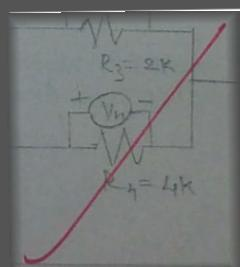

Figure 5.2
- Connect the circuit as shown in figure 5.2 with the lamp of tungsten filament (material with positive temperature coefficient) and switch on 1-Φ A.C. supply. Set 230 V with the help of autotransformer in voltmeter  $V_1$ .
As shown in Figure 5.2 if we go from positive terminal of our source to the negative terminal, we will find that the dependent source has a negative sign.